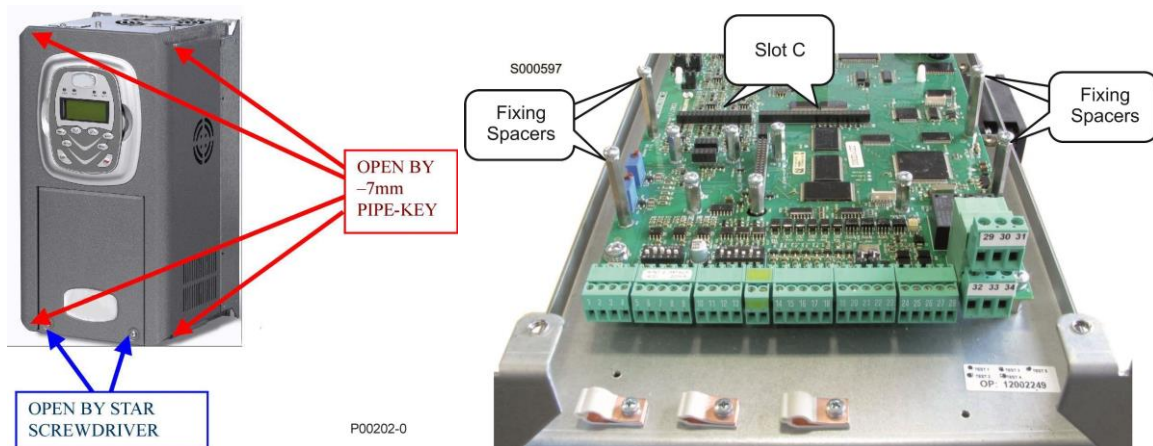

Figure 139: Removing the inverter cover; location of slot C
2. Remove the whole inverter covering by loosening the four hexagonal screws located on the top side and bottom side of the inverter to reach the fixing spacers and the signal connector (Figure 139 – Slot C.)